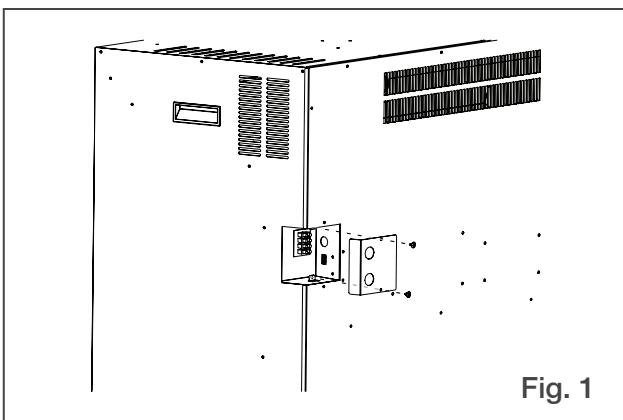

Fig. 1
- Locate the desired 2 conductor or 3 conductor wire cable to the right side of the enclosure for the hard-wiring installation based on the desired 120 V or 240 V heat output capability. (**Fig.1**).